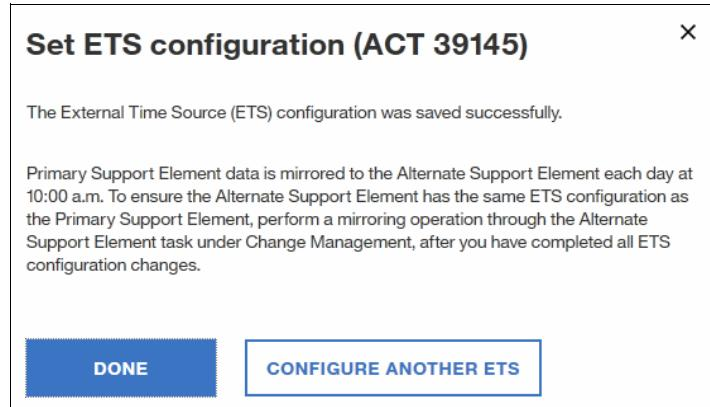

Figure 8-51 ETS configured successfully
7. The **Set ETS configuration (ACT 39145)** window opens. Click **DONE** to finish. (Figure 8-51).